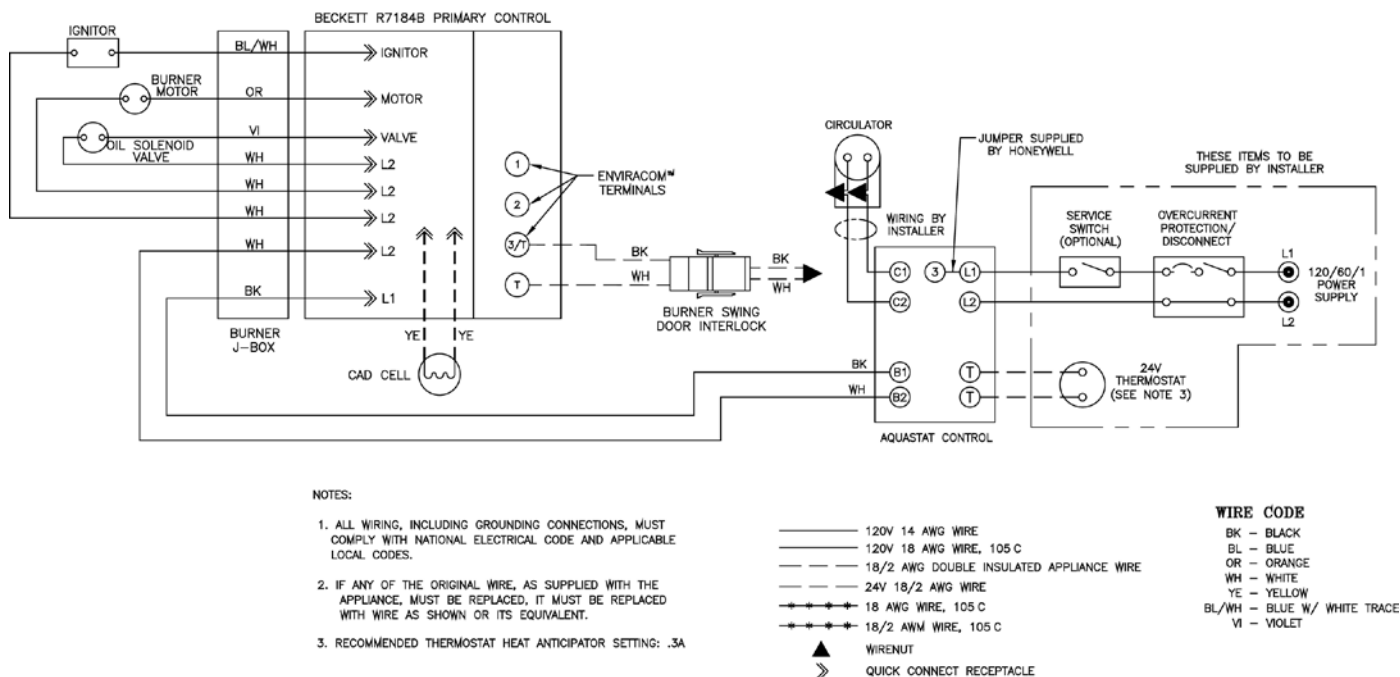

Figure 11A: Wiring Diagram for microTEK3 Boilers with Beckett AFG Burner and Split Controls
9. **INSTALL ELECTRIC WIRING** in accordance with National Electrical Code and local regulations. A separate **ELECTRICAL CIRCUIT** must be run from the main electrical service with an over-current device/disconnect in the circuit. A service switch is recommended and may be required by some local jurisdictions. Wiring should conform to Figures 11A and 11B.